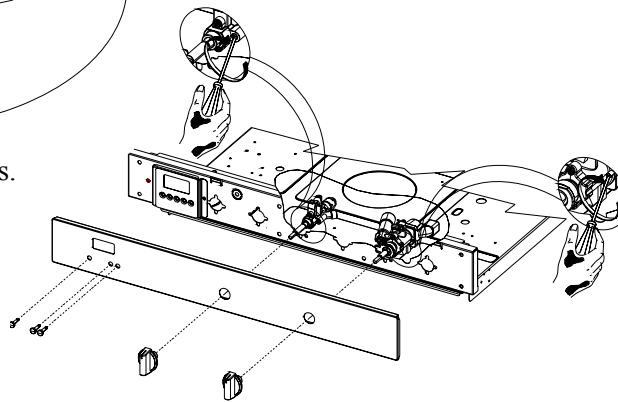

Fig 6 Regulating thermostat bypass.
- Adjust bypass setting until correct flame picture is achieved. The bypass adjustment screw is located on the right-hand side of the valve body and access can be made from the front of the appliance through the rear panel of the control-panel. Turn screw clockwise to decrease flow (see Fig 6).